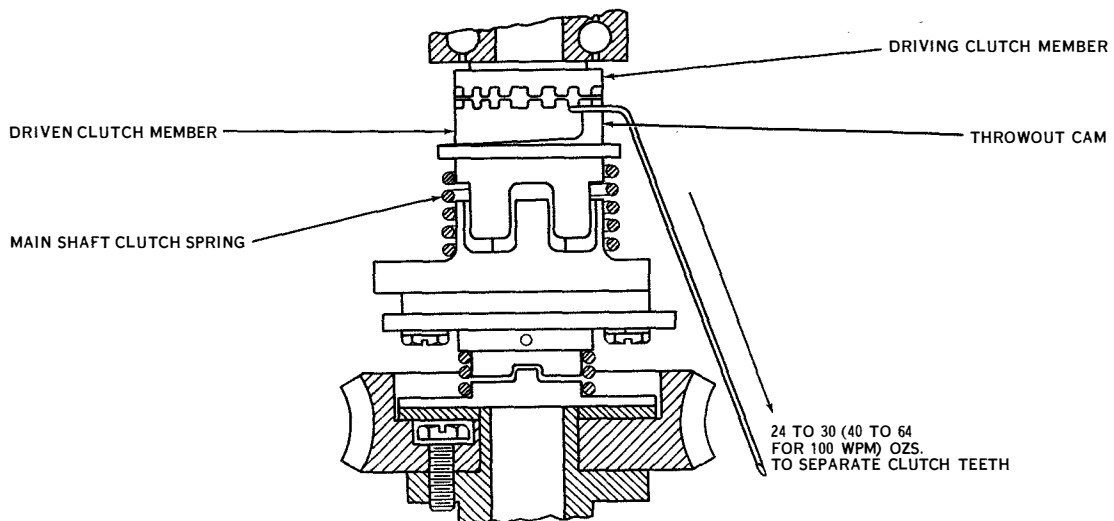

Figure 7-23. Main Shaft Clutch Spring Tension
(1) MAIN SHAFT CLUTCH SPRING TENSION. (See figure 7-23.)—With the teeth of the driven clutch member resting against the teeth of the driving member but not engaged, it should require a tension of 24 to 30 ounces (40 to 64 ounces for 100-wpm